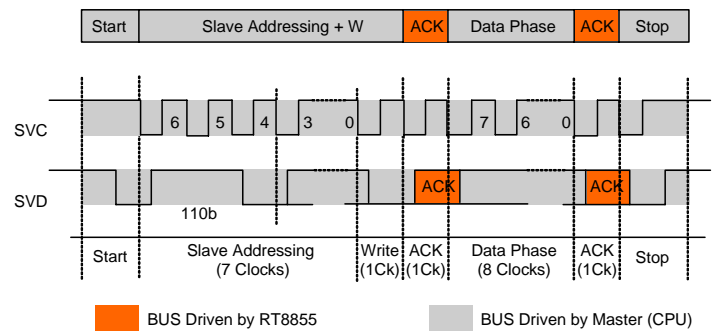

Figure 1. SVI Communication-Send Byte
Figure1. SVI interface also consider two additional signals needed to manage the system start-up. These signals are EN and PWROK. The device asserts a PGOOD signal if the output voltages are in regulation.
The Set VID Command is defined as the command sequence that the CPU issues on the SVI bus to modify the voltage level of the Core section and NB section, as shown is Figure 1. During a Set VID Command, the processor sends the start (Start) sequence followed by the address of the Section which the Set VID Command applies. The processor then sends the write (WRITE) bit. After the write bit, The Voltage Regulator (VR) sends the acknowledge (ACK) bit. The processor then sends the VID bits code during the data phase. The VR sends the acknowledge (ACK) bit after the data phase. Finally, the processor sends the stop (Stop) sequence. After the VR has detected the stop, it performs an On-the-Fly VID transition for the addressed section(s). Refer to Table 3 for the details of SVI send byte.